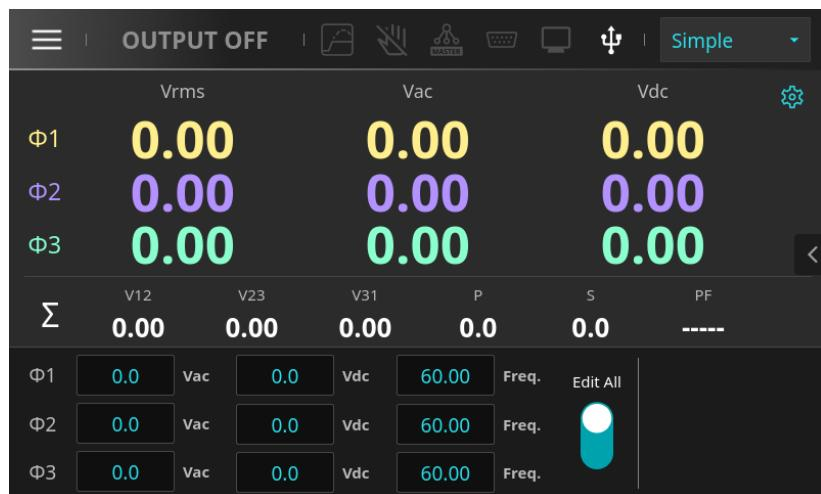

Figure 4-13: Updated measurement parameters on the main screen in three-phase mode (Simple mode page)
4. Press the "CONFIRM" button to return to the main screen. The measurement parameters will be updated accordingly, as shown in Figure 4-13.